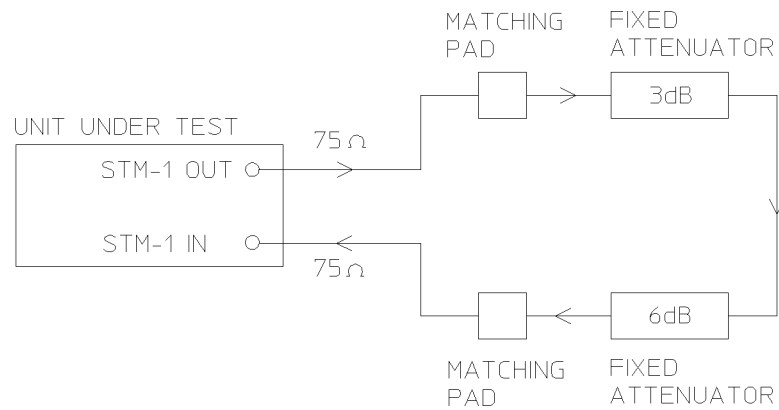

Figure 3-41
3. Connect up the equipment as shown in Figure 3-41.